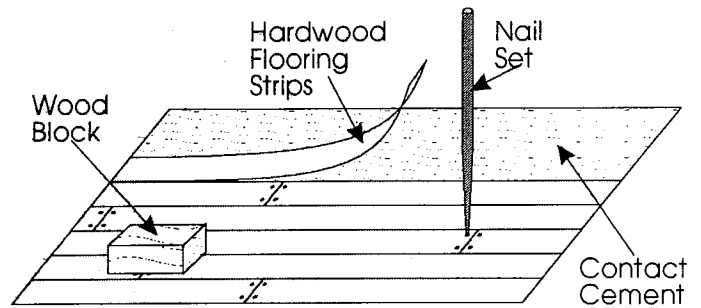

Figure 9
2. Start laying hardwood strips at the back of the house and work toward the front. Cut the strips with scissors. Off-set the joints as shown in Fig. 9.
4. To achieve a pegged appearance punch the ends of each strip with a 3/32" nail set. Fig. 9.